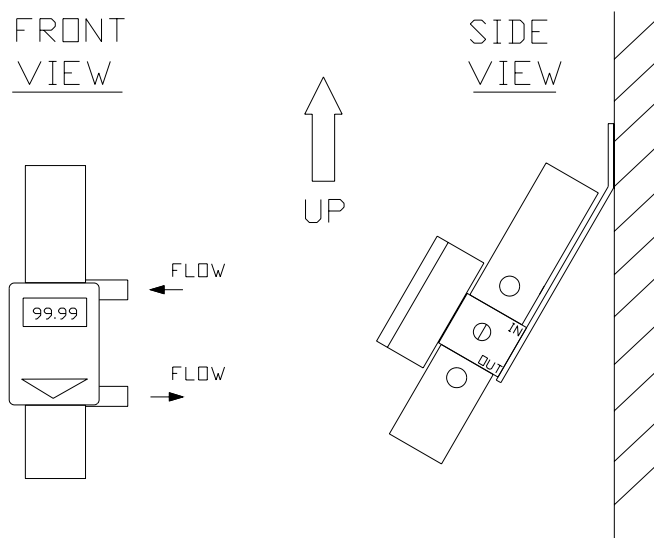

Figure 4: Recommended Mounting Orientation of Blow-by Meter
1. Mount the meter using the supplied bracket or in a similar orientation (see Figure 4 on page 10). This orientation allows condensed materials to drain from the meter and maintain accurate operation.
1. Decide where the BB400MR is to be mounted. The meter should be above the level of oil in the engine and mounted using the supplied bracket. The bracket holds the meter straight up with the top tilted back approximately 30 degrees (see Figure 4). The purpose of this orientation is to drain any condensed material away from the flow-sensing portion of the meter. The meter will work in any position but will work the longest before draining or cleaning is required by mounting it this way.